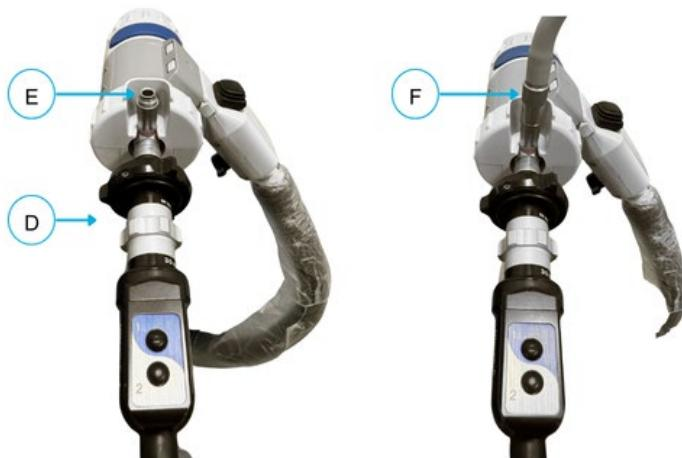

Figure 11-15: Cystoscopy Camera and Light
5. Attach cystoscopy camera to lens (**D**) (**Figure 11-15**).
6. Attach cystoscopy light (**F**) to the lens light port (**E**) (**Figure 11-15**).